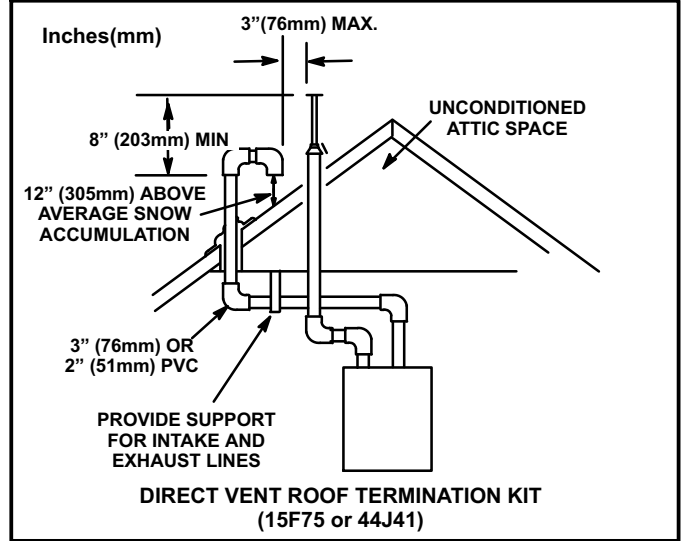

FIGURE 34
Intake and exhaust pipes may be routed either horizontally through an outside wall or vertically through the roof. In attic or closet installations, vertical termination through the roof is preferred. Figures 34 through 42 show typical terminations.
3. On roof terminations, the intake piping should terminate straight down using two 90° elbows (See figure 34).